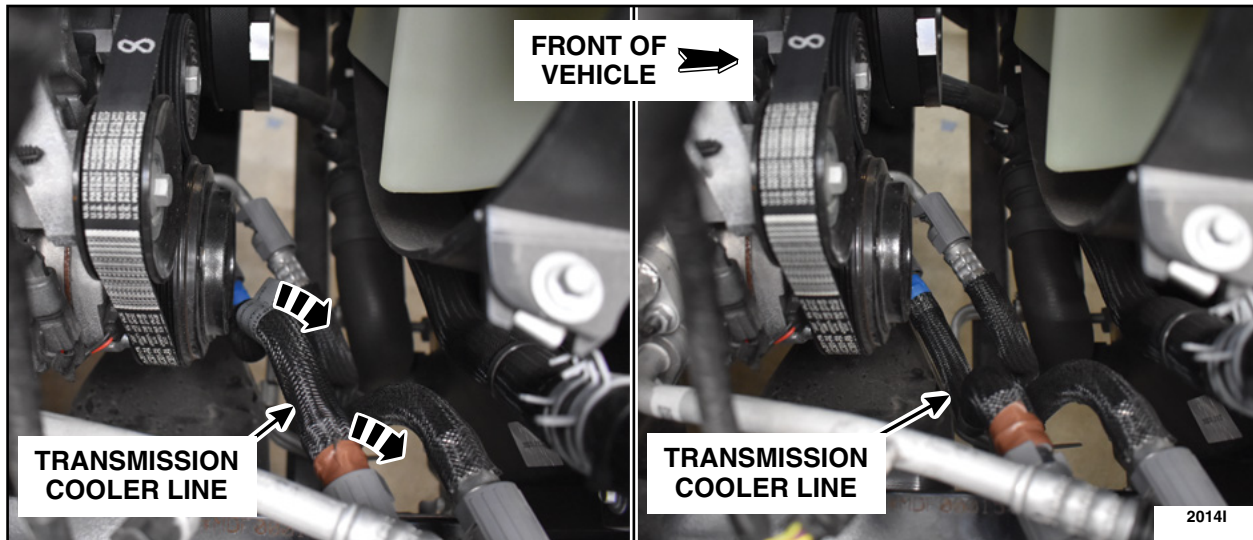

FIGURE 4
5. Rotate the transmission cooler line towards the front of the vehicle until the proper orientation is achieved, then proceed to Step 10. See Figure 4.